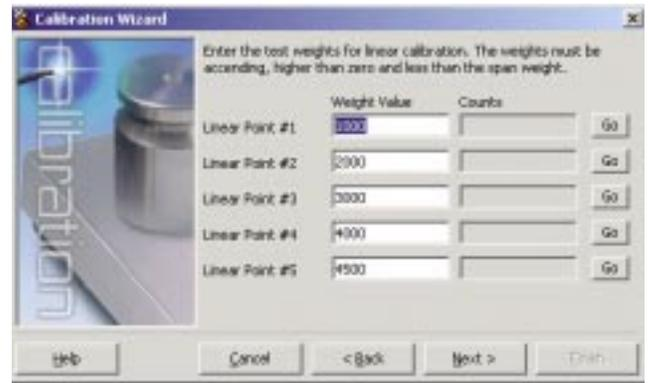

Figure 4-9. *iRev Linear Calibration Display*
- If performing a multi-point linear calibration, up to five other calibration weight values can be entered on the display shown in Figure 4-9. The weights must be in ascending order and must not include zero or the span weight. Enter the weight values and click the *Go* button to calibrate each point.